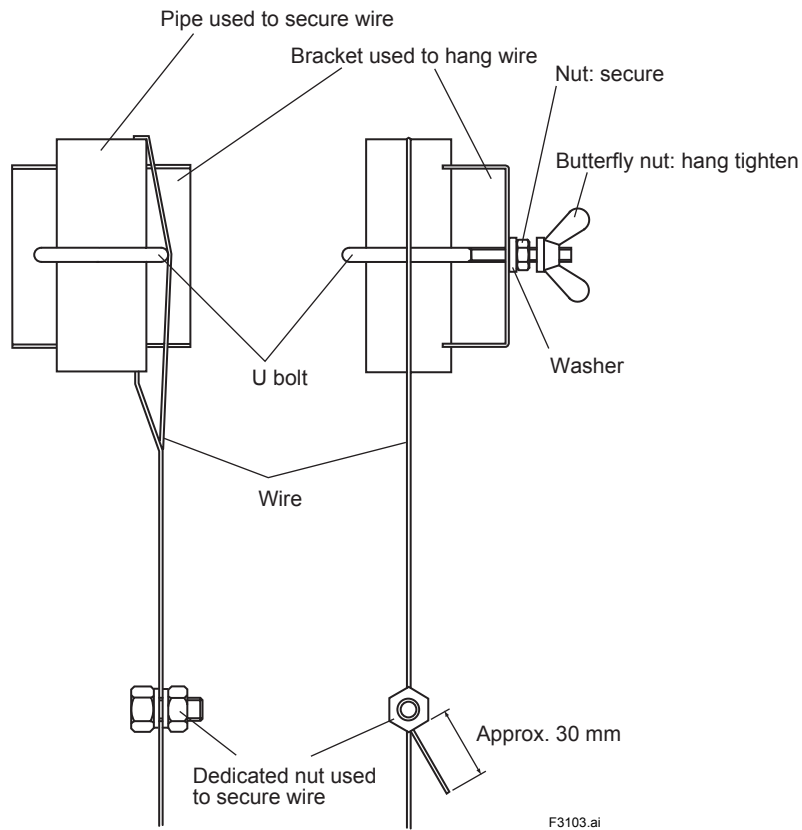

Figure 3.3 Assembling the Wire Hanging Bracket
- (2) Cut the wire to an appropriate length based on the submerge depth of the sensor.
- (3) As shown in Figure 3.3, assemble the wire hanging bracket and pass one end of the wire through the securing pipe and secure it using the dedicated nut. After hand-tightening the butterfly nut on the U bolt, use a pair of pliers to strip the threads of the screw at the tip of the bolt.